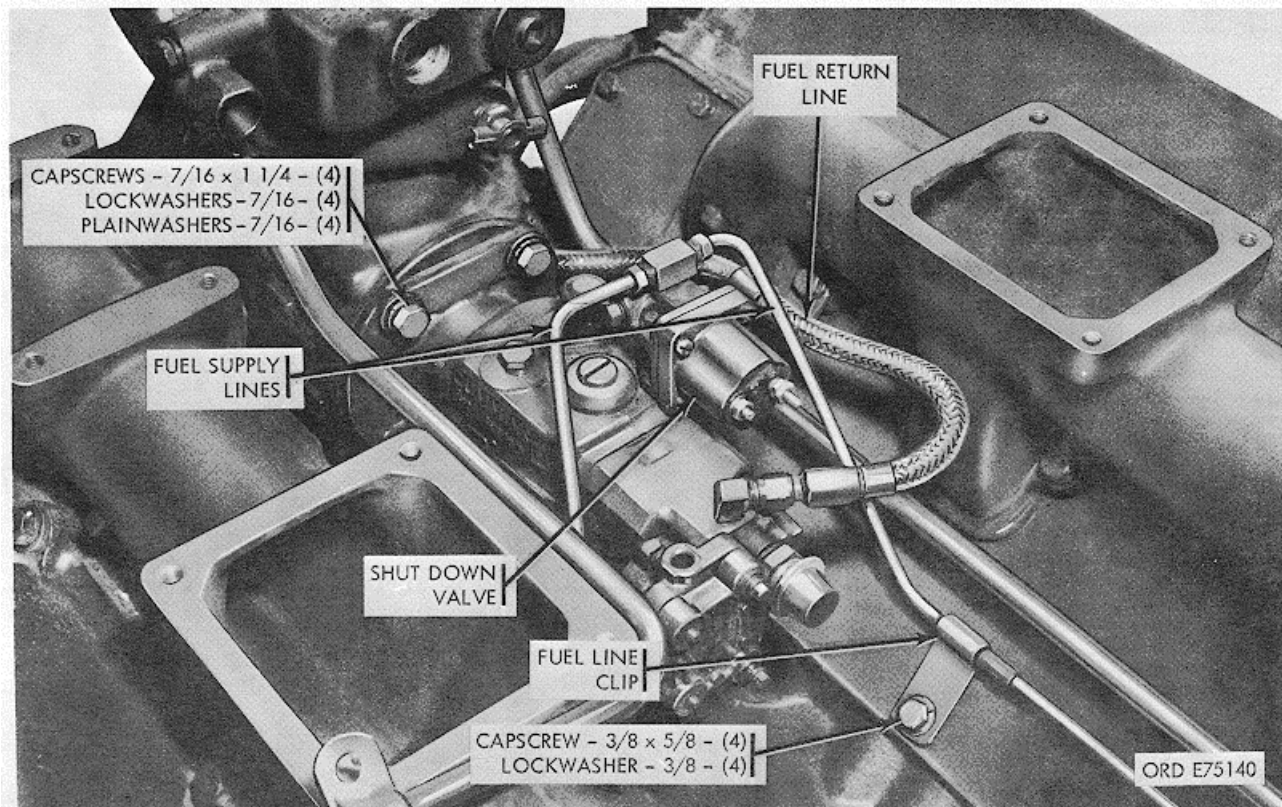

Figure 2-9. Intake manifolds fuel pump and fuel lines--removal/installation.
(1) Loosen hose clamps on crossover to air compressor flexible hose connection.
(2) Remove eight capscrews, lockwashers, and flat washers securing crossover and preheater assembly to intake manifolds.
(3) Disconnect flexible hose at air compressor and remove crossover and preheater assembly from manifolds. Remove and discard two gaskets.
j. Intake Manifolds (fig. 2-9).
(1) Remove eight capscrews, lockwashers,